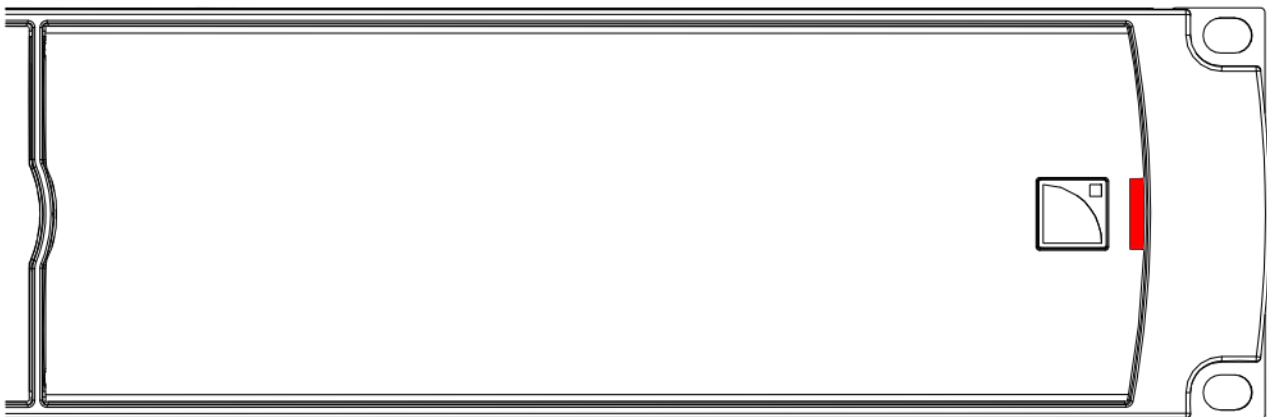

Figure 5: Removing the GRILL
1. Insert the head of the screwdriver in the hole indicated in Figure 5.